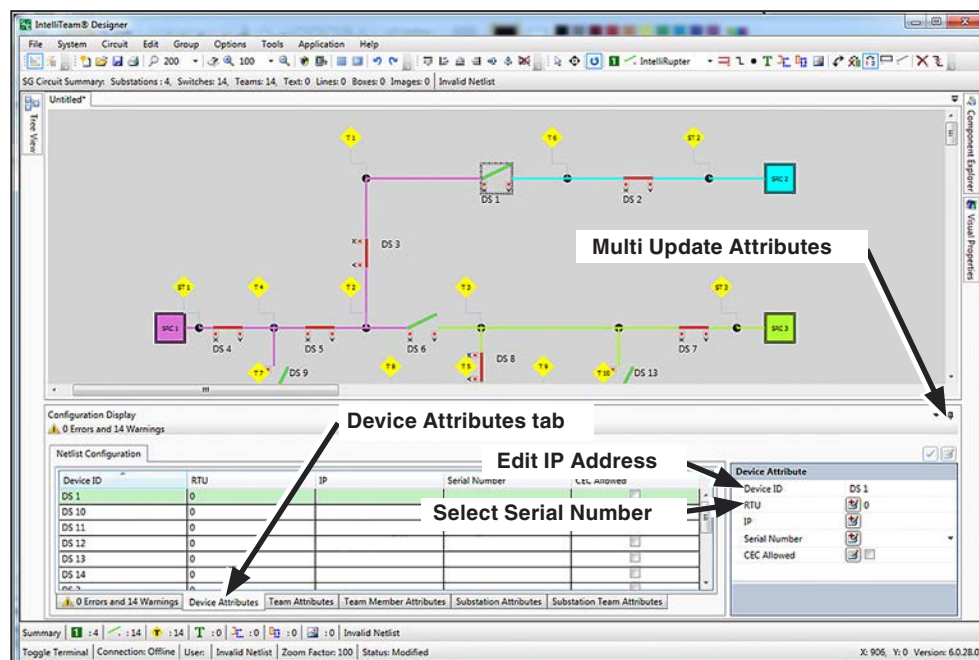

Figure 62. Enter RTU addresses in the configuration editor.
- STEP 4.** When all of the missing RTU addresses and serial numbers have been entered, click on the **Validation** button again; this will delete the associated warnings. See Figure 62.
- STEP 1.** On the Netlist Configuration dialog box, select the **Device Attributes** tab. See Figure 62.